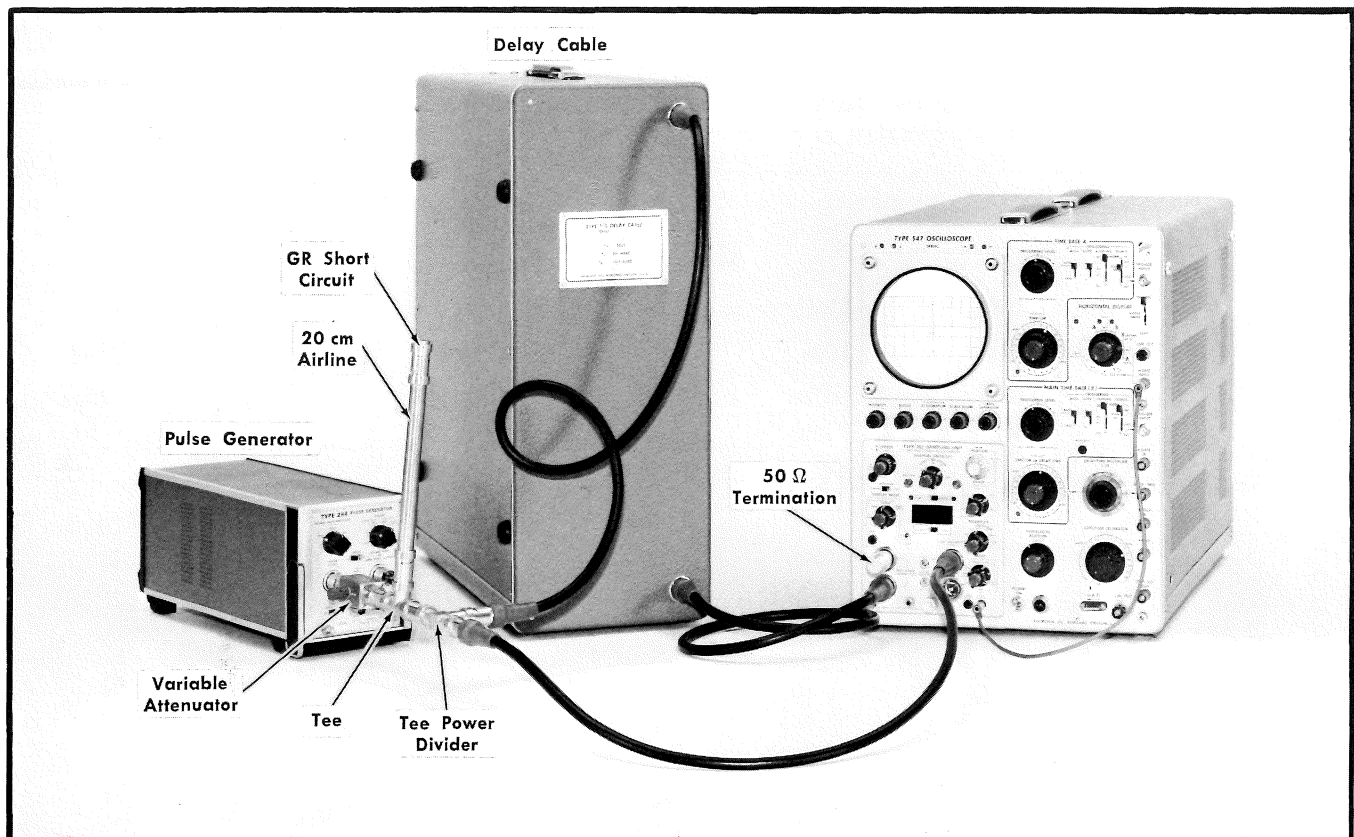

Fig. 7-38. Test equipment setup for step 46.
a. Equipment setup is shown in Fig. 7-38. Connections are as follows: